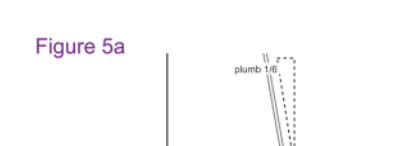

Figure 5a
- Hanger (Suspension) Wires (Figures 5a and 5b)**
- Hanger and perimeter wires must be plumb within 1.6 unless (Figure 5a) counter sloping wires are provided (Figure 5b). Source: ASTM E580 Section 2.1.4